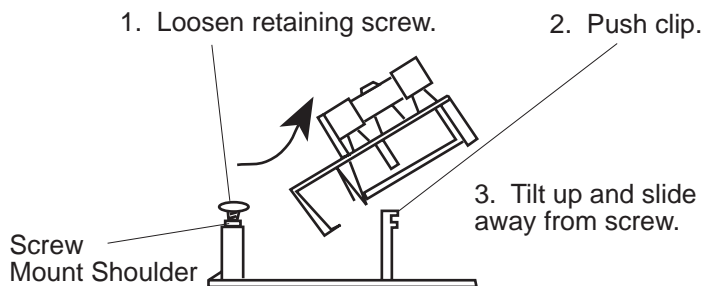

Figure 2-4 Removing the Fuse Block
- Loosen the Phillips screw two turns and remove the fuse block by tilting it up and sliding it away from the screw (Figure 2-4).